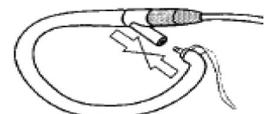

Fig. 4-6D
5. Close the loop by holding the fabric directly behind the release tab and pushing the snap into the receptacle on the “Y” connect. (See Figure 4-6D)